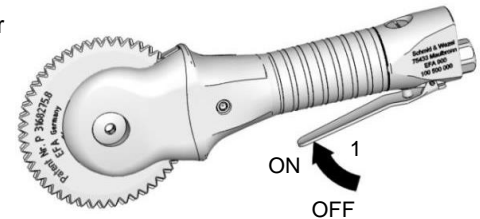

Fig. 6.1 – Operating lever
The pneumatically operated dehider is equipped with a valve lever (1) for switching the compressed air flow, see Fig. 6.1.